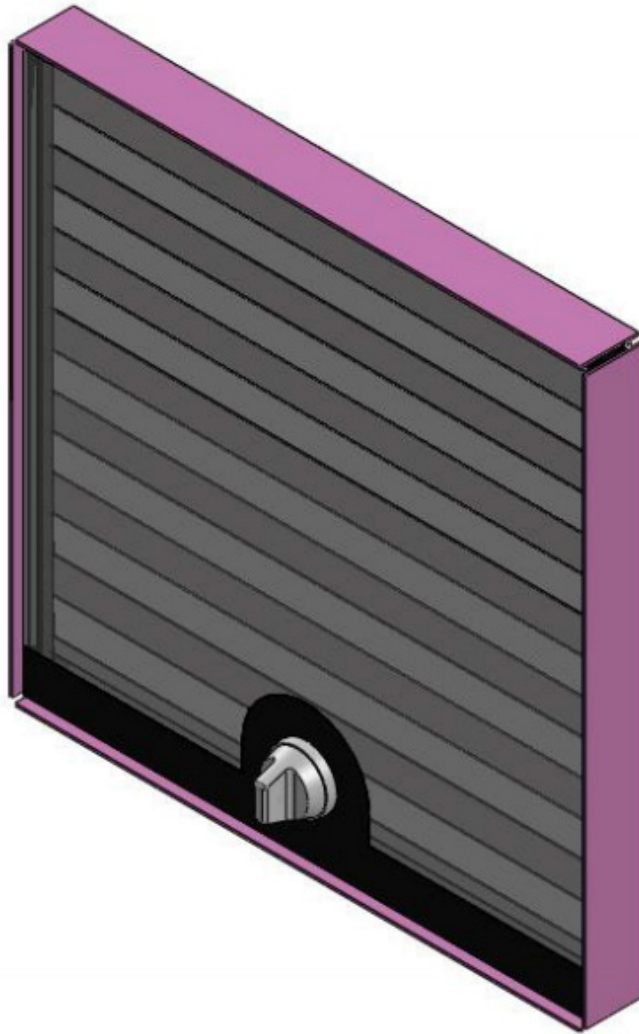

Fig. 3.
7. Apply this to the perimeter of the panel. (Fig. 3.)